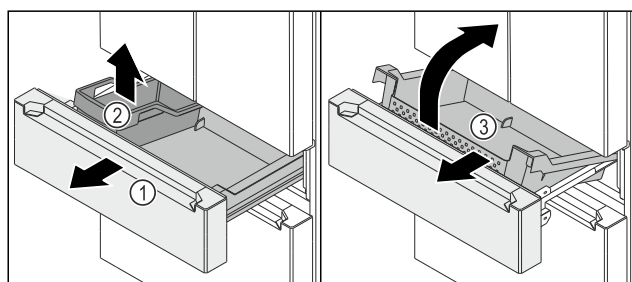

Fig. 150
- Pull the telescopic unit Fig. 150 (1) out as far as it will go.
- Remove the FlexBox Fig. 150 (2).
- Pull the container Fig. 150 (3) out forwards.
- Remove the container Fig. 150 (3) diagonally forwards.